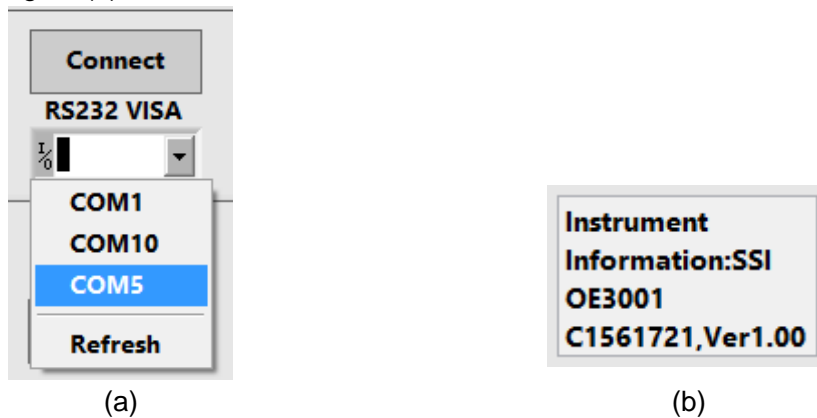

Fig12. Connection steps diagram
1. Choose the right COM port at “COM configuration”, and then click “Connect” as Fig.12 (a). If the connection succeeds, the software will show the version information of the OE3001 as Fig.12 (b).